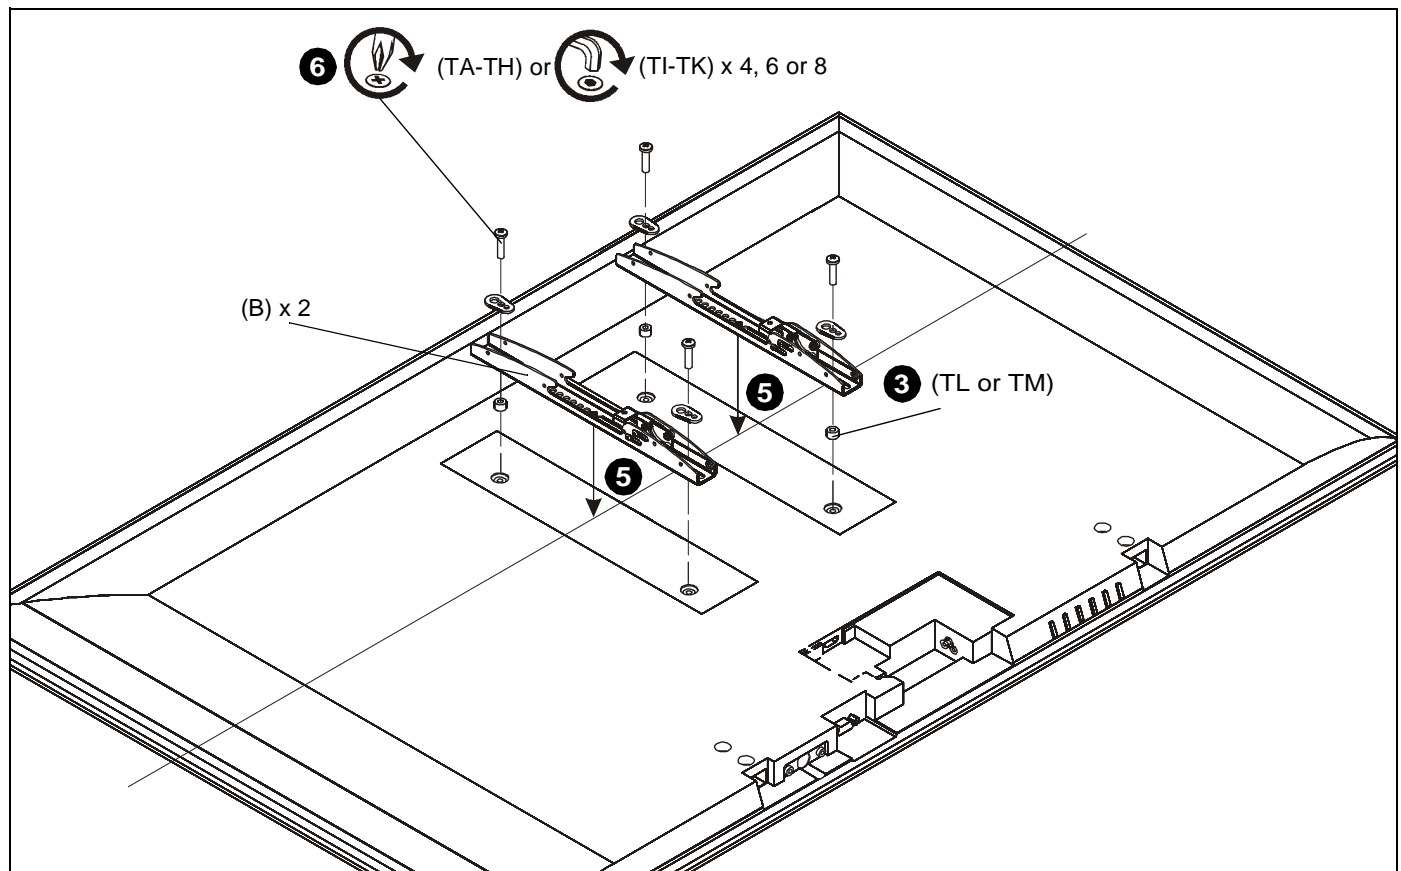

Figure 5
2. Select screw *diameter* by examining hardware (TA-TK) (4mm, 5mm, 6mm or 8mm) and comparing with mounting holes on display. (See Figure 5)
3. Select spacers: (See Figure 5)
- If mounting holes are not recessed and both uprights (B) can lay flat against display, then no spacers are required.
- If mounting holes are recessed, or if protrusions prevent uprights (B) from laying flat, then spacers (TL or TM) must be used.
4. Select screw *length*: (See Figure 5)
- Using your hand, insert **SHORTEST** length screw of selected diameter (TA, TD, TG or TI) through universal washer (TN), uprights (B), selected spacer (TL or TM), into display mounting hole. Do NOT thread screw into hole at this time.
5. Place uprights (B) on display, ensuring: (See Figure 5)
- Center of uprights (B) are as close to the center of the back of display as possible after being installed. Center of bracket is indicated by the diamond-shaped hole.
6. Use selected screws and spacers to install two interface uprights (B) to back of display. (See Figure 5)